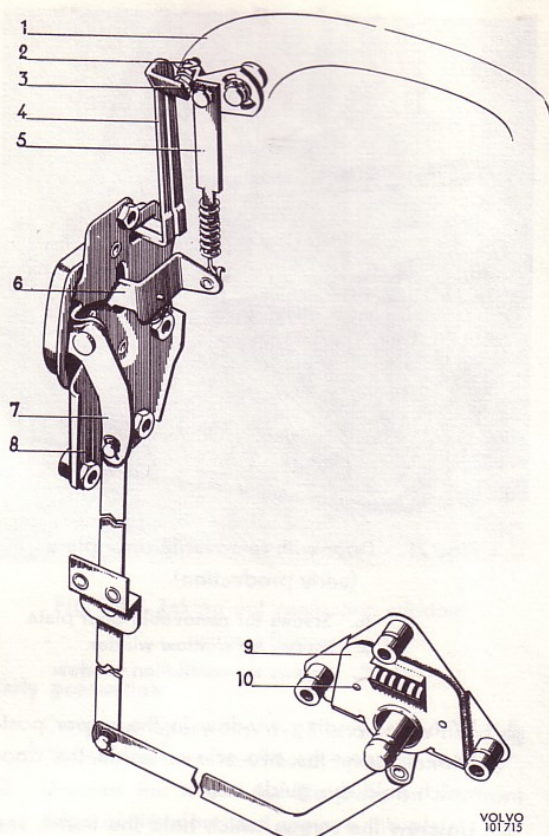

Fig. 17. Door lock with remote control.
1. Fit the lock (Fig. 17) with remote control in the door without tightening the screws for the remote control. Fit the lever between the lock and remote control.
3. Fit the link arm (5, Fig. 17) between the control lever and lock. Adjust the length of the link arm by screwing the spring out or in so that the control lever is clear of the stop plate when locked and contacts the middle of the plate when unlocked, see Fig. 17.
2. Check the clearance between the control lever and stop on the lock lever. The clearance should be 1—2 mm (about  $\frac{1}{16}$ "), which is adjusted by bending the lever (4, Fig. 17).